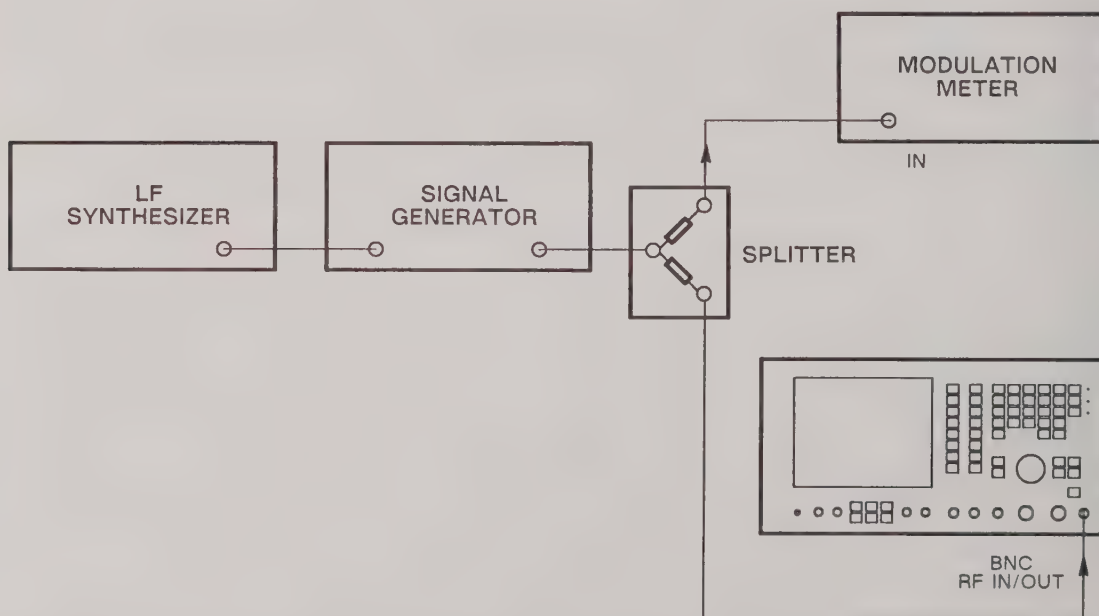

Fig. 6-5 Test equipment connections for modulation meter AM depth and FM deviation
- (3) Set the signal generator carrier frequency to 100 MHz, level to 7 dBm, 80% AM and 1 kHz internal modulating frequency.
- (4) Set the modulation meter to AM in a 0.3 to 3.4 kHz bandwidth.
- (5) Check that the MOD LEVEL is the same as the modulation meter reading $\pm 5\% \pm 1$ digit. Check that the AM bar chart indicates the AM being applied.
- (6) Repeat (3) and (5) for other modulation depths from 0 to 90% and other carrier frequencies between 1.5 and 100 MHz.
- (7) Repeat (3) and (5) for other modulation depths from 0 to 80% and other carrier frequencies between 1.5 and 400 MHz.
- (8) Connect the LF generator to the signal generator modulation input. See Fig. 6-5.
- (9) On the 2955A, set the FILTER to 15 kHz LOW PASS.
- (10) Set the signal generator carrier frequency to 100 MHz, level to 7 dBm and 80% external AM at a 10 kHz modulating frequency (from the LF generator).
- (11) Set the modulation meter to AM in a 30 Hz to 50 kHz bandwidth.
- (12) Set the synthesized LF generator to give a 10 kHz sinewave. Adjust the level to suit the external modulation input of the signal generator.
- (13) Check that the MOD LEVEL is the same as the modulation meter reading $\pm 8.5\% \pm 1$ digit.
- (14) Repeat (12) and (13) for other modulating frequencies between 50 Hz and 10 kHz.